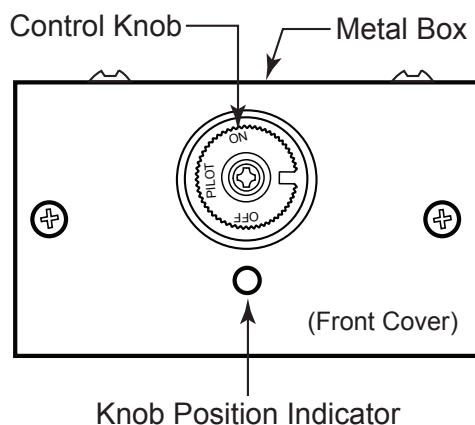

Fig. 14 Front of valve kit showing gas control knob.
1. Turn the gas control knob so the indicator points to the **PILOT** position, push the gas control knob IN and HOLD in position. This will open the pilot valve and allows gas to flow to the pilot burner. See Fig. 14.
1. Ensure the pilot is lit and the control knob is in the ON position. See Fig. 14.